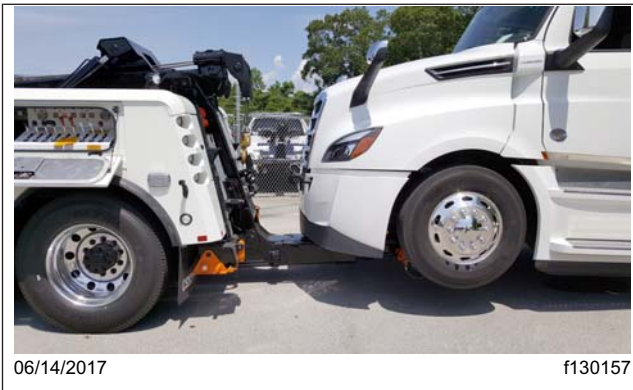

Fig. 23.14, Final Towing Position
16. Use the stinger to pull the vehicle close to the back of the tow truck for final towing position. See Fig. 23.14.